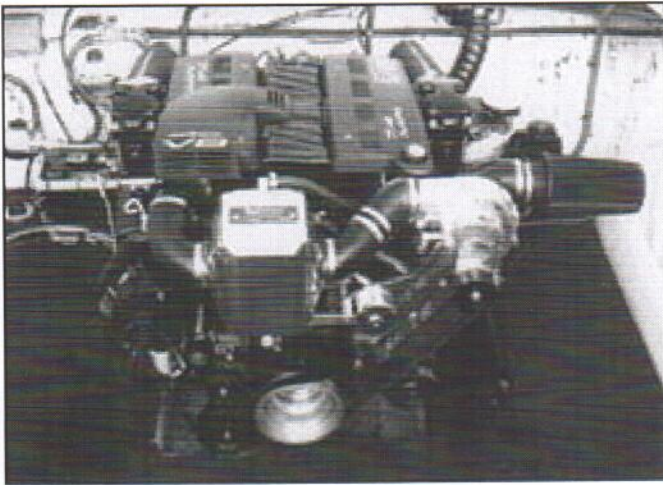

FIGURE E1
1. Review figure E1 before starting. Place supplied 4" inlet elbow over ProCharger inlet. Position the elbow so that it points upward and/or outward to avoid the exhaust manifold and, if applicable, deck above when the filter is installed. If necessary, this elbow can be trimmed to obtain the proper clearance. Temporarily secure with a clamp. On the inlet elbow, position and mark the location of the breather fittings (the plastic 1/2" straight and 3/8" 90 deg fittings). The fittings should be positioned so that the straight 1/2" fitting routes to the port side breather and the 3/8" 90 degree fitting routes to the starboard side breather. Remove the elbow and drill a hole for the 1/2" fitting using a 7/16" drill bit and for the 3/8" fitting using a 5/16" drill bit. Insert the fittings and re-install the inlet elbow.